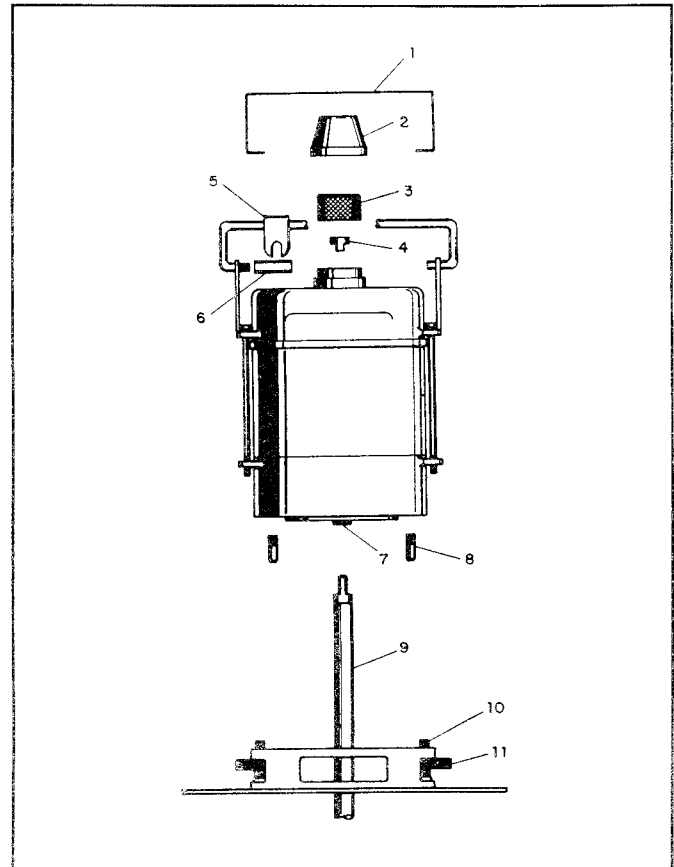

Figure 17. "QH" Series Motor
C. "QH" Series Motor (Figure 17):
- a. Free safety wire (1) from safety cap (2) and remove the cap.
- b. Hold shaft (9) with tool (5) provided on motor handle, unscrew knob (3), and lift off driver (4).
- c. Remove plastic thread protector (6) from motor handle and install on shaft (9). Slip driver (4) on motor handle and screw knob (3) on the handle for safe keeping.
- d. Spin knurled motor bolt knobs (11) to disengage studs (10).
- e. Lift motor straight off. Do not tilt motor or force remove. Set motor on stand or on its side to protect hollow shaft (7).
- f. Position safety cap (2) on motor and secure with safety wire (1). **DO NOT LEAVE SHAFT UNPROTECTED.** Place shaft protector over exposed shaft and secure with spin nuts.